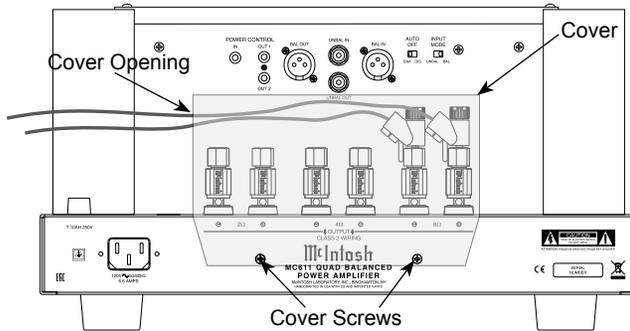

Figure 5 (Inside USA and Canada)
cover opening on the left side. Refer to figure 5.
Note: The illustration in figure 5 is connections for 8Ω (ohms) Loudspeakers.
9. Attach the Terminal Connections Cover to the MC611 Rear Panel with the previously removed Screws. Refer to figure 5.